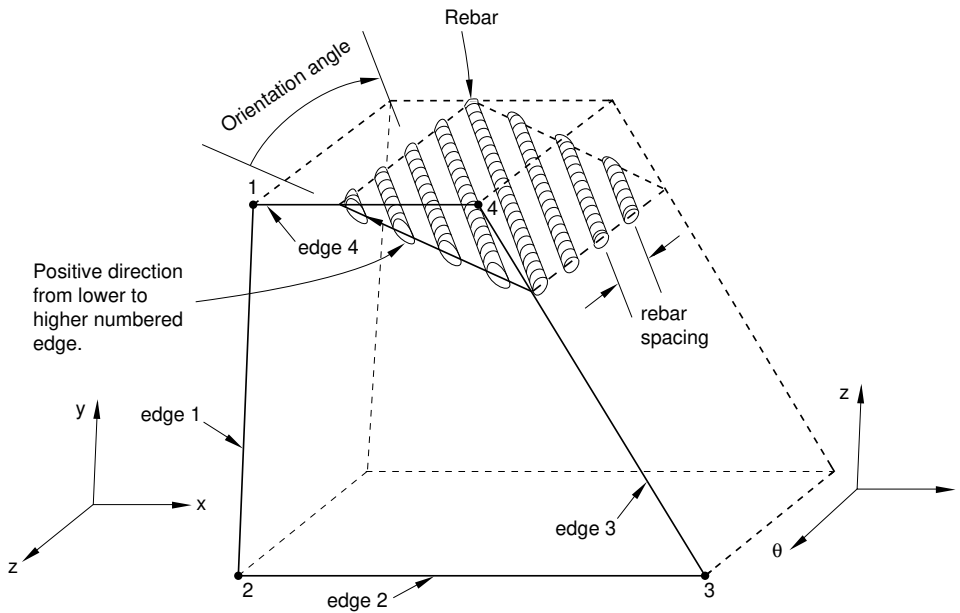

Figure 3: Orientation of rebar in plane and axisymmetric solid elements.
4. Orientation of rebar in degrees. See Figure 3.